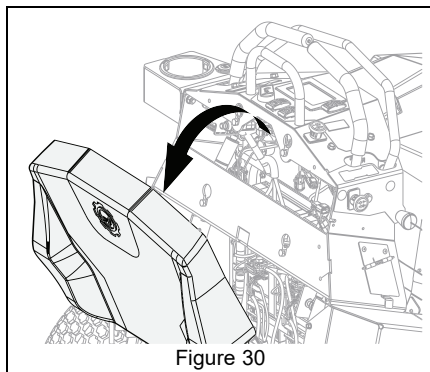

Figure 30
6. Pull operator pad upward and then rearward to remove. See Figure 30.